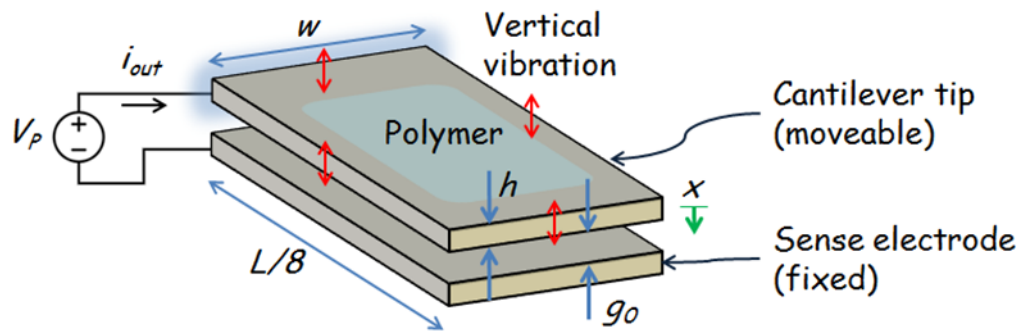

Figure PS1.2
- (g) Assume that the tip of the cantilever is excited at its resonant frequency and that its motion is sensed by an electrode placed over the last 1/8 of the cantilever length near its tip, as shown in Figure PS1.2.